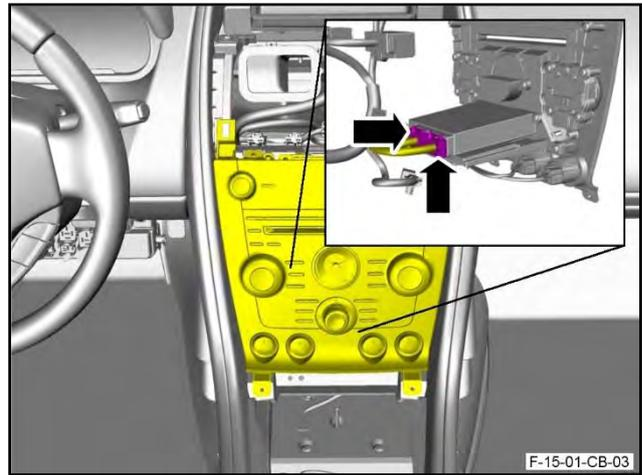

Figure 99
- 135. Connect the two electrical connectors to the CCM (refer to Figure 99).